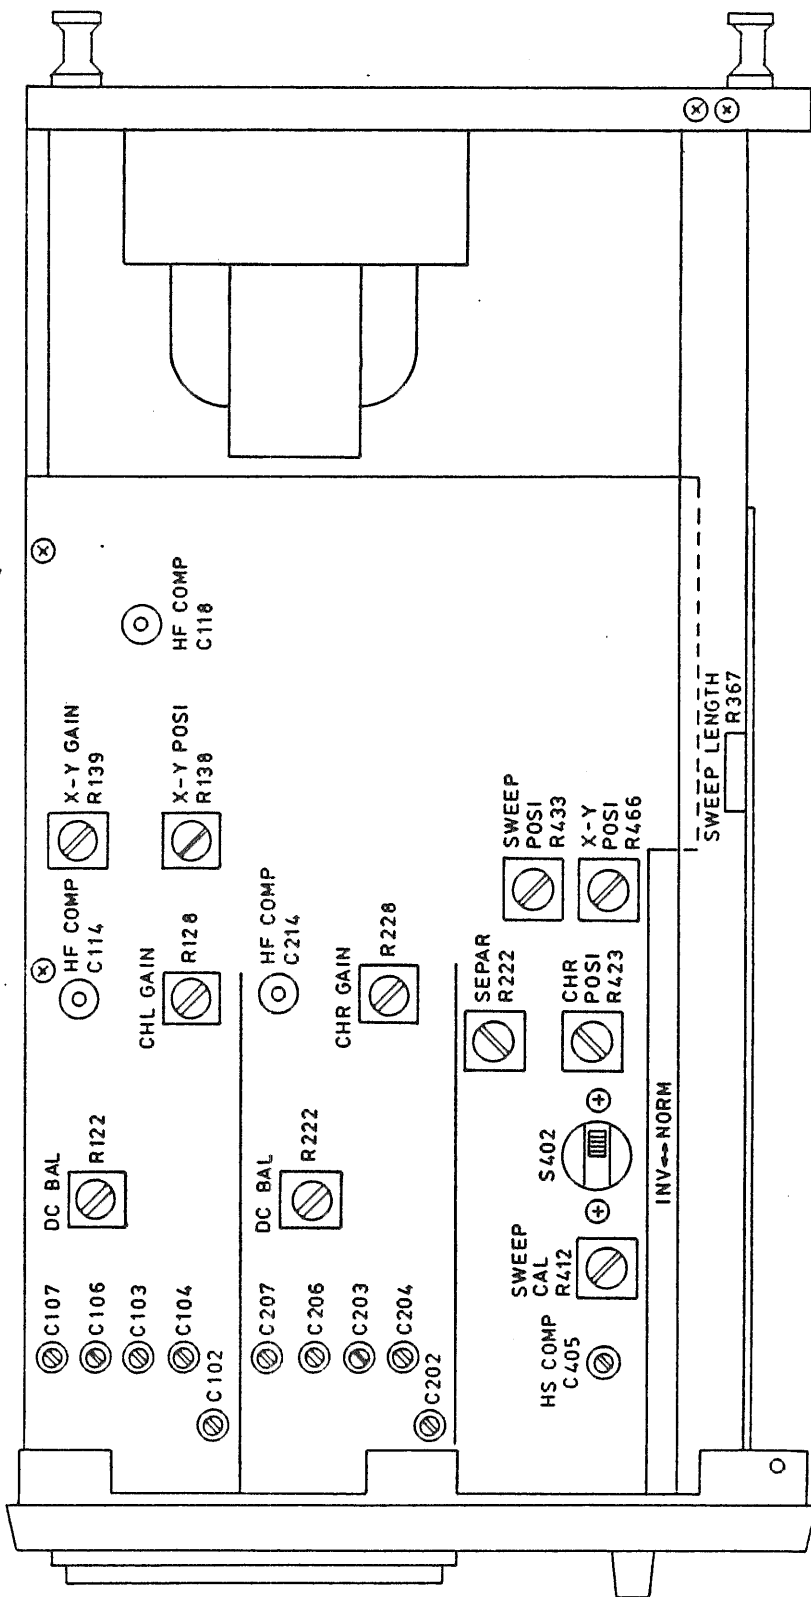

Fig. 26
- (1) Set the VOLTS/DIV switch (14) or (16) in the GND range and display the trace on the CRT screen.
- (2) Turning the VARIABLE knob, so adjust the DC BAL control that the shift of the trace becomes minimum. (See Fig. 26)
- (1) Set the pulse wave generator output at 80 mV and apply this signal to the vertical INPUT terminal.
- (2) Set the VARIABLE knob in the CAL position and the VOLTS/DIV switch in the 10 mV position, and so adjust the GAIN ADJ control (Fig. 26) that the deflection amplitude on the CRT screen becomes as set in 8 DIV.
(See Figs. 26 and 27.)
(See Figs. 26 and 28.)
This adjustment includes SWEEP POSITION adjustment, SEPARATION adjustment and SWEEP LENGTH adjustment. (See Fig. 26.)
- (2) Set the TIME/DIV switch (23) at the 100 μ S position.
- (3) So adjust the SWEEP POSITION control that the CHL and CHR traces end at the center of the graticule.
- (4) So adjust the SEPARATION control that the two traces start at the two ends on the graticule.
- (5) So adjust the SWEEP LENGTH control that the ends of the CHL and CHR traces are spaced 0.2 DIV.
- (6) Check again the SWEEP POSITION and SEPARATION adjustments.
- (7) Apply a timer marker signal of 100 μ sec to the CHL and CHR input terminals.
- (8) So adjust SWEEP CAL control (Fig. 26) that the periods of the displayed signal waveform conform with graticule lines. (See Section 6.5 Adjustment of Time base.)
- (1) Set the TIME/DIV switch at the 100 μ S position, apply a time marker signal of repetition period 100 μ sec or a sine wave signal of frequency 10 kHz to the vertical input terminal, and so adjust the input signal amplitude or the oscilloscope sensitivity that the signal is displayed with an appropriate deflection amplitude on the CRT screen.
- (2) So adjust the SWEEP CAL control (Fig. 26) that the periods of the displayed waveform conform with graticule lines.
- (3) Next, apply a 1- μ sec time marker signal or a 1-MHz sine wave signal to the vertical input terminal signal and set the TIME/DIV switch at the 1 μ S position.
- (4) So adjust the HS COMP control (Fig. 26) that the displayed waveform periods conform with graticule lines.
- (5) Check again for the 100 μ S range as Step (1) above.
- (1) For both CHL and CHR, set the VOLTS/DIV switch in the GND range and so set the horizontal POSITION knobs (29) that their white dot marks are positioned in the upright position (noon high position).
- (2) Set the vertical MODE switch in the X-Y state (10), and so adjust the X-Y POSITION (Semi-fixed resistor, see Fig. 26) that the spot is displayed on the center line of the graticule.
- (1) Set the oscillator output signal at 100 mVp-p and apply this signal to the X-axis input terminal.
- (2) So adjust the X-Y GAIN control (Fig. 26) that the signal deflection amplitude becomes the full scale of the graticule.